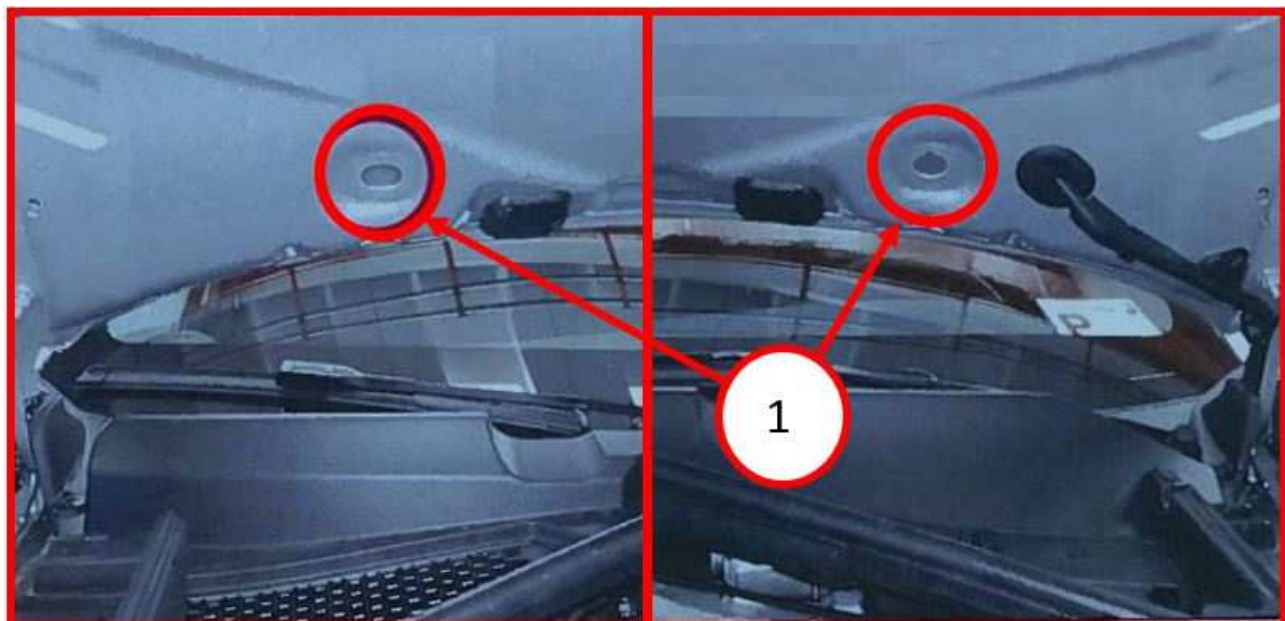

Fig. 2
2. Clean area around vent holes (Fig. 2) with isopropyl alcohol to allow insulating tape to stick to surface.